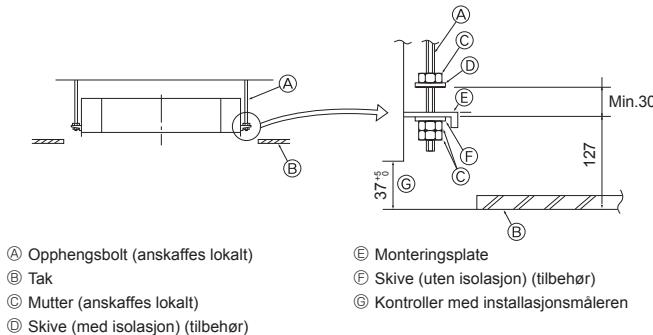

Fig. 2-5
2.5. Prosedyrer for enhetsoppfeng (Fig. 2-5)